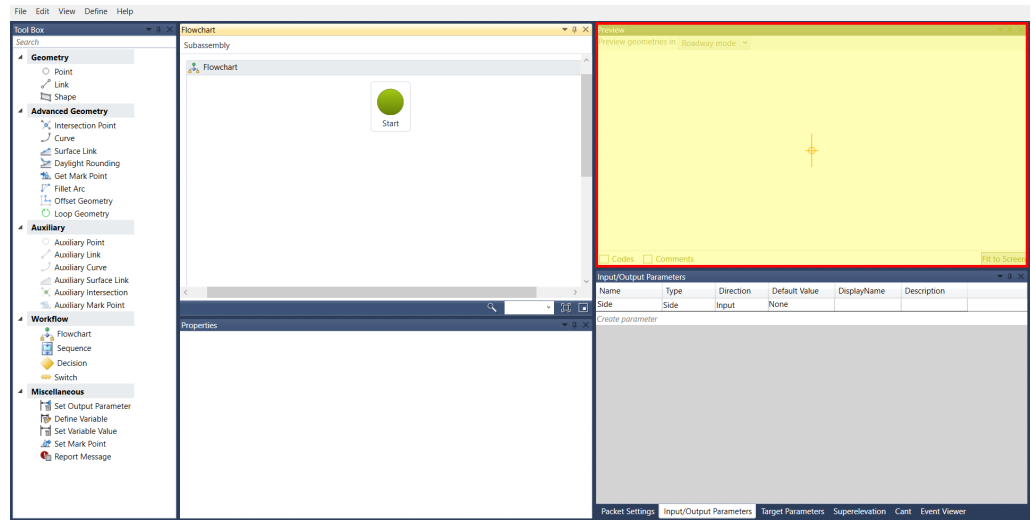

Figure 9.4 – Preview area
Additionally, the panel features the **Codes** (displayed in brackets [ ]) and **Comments** (displayed in parentheses ( )) checkboxes at the bottom. If Codes or Comments were entered in the properties for points, links, or shapes, this information will be listed next to the relevant geometry (refer to *Figure 9.4*).
- **Slope:** SlopeofGroundatBottomofWall (this is where we want to match the parameter that we defined in Figure 9.4)
- **Delta X:** WidthatBottomofWall (this is where we want to match the parameter that we defined in Figure 9.4)